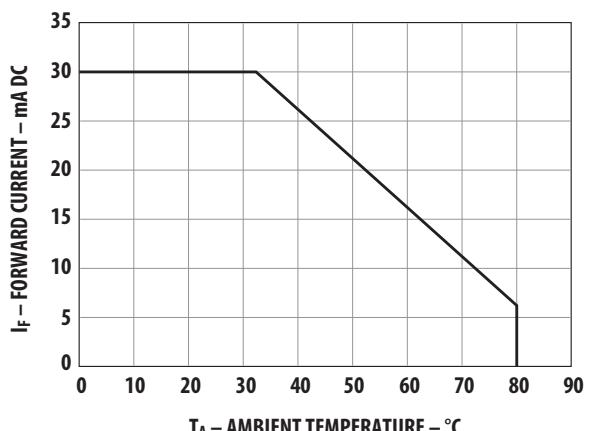

Figure 6. Maximum DC forward current vs. ambient temperature. Derating based on T_J max. = 115°C
1. Derate linearly from 50 $^\circ\text{C}$ as shown in Figure 6.